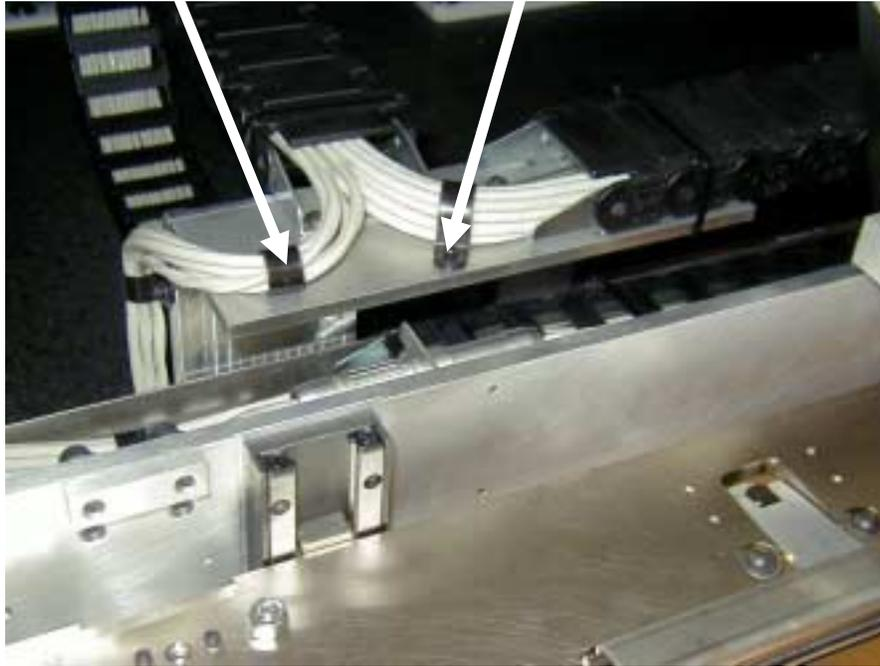

Figure 8.
14. Mount both Cable Clamps to the new E-Chain Support, using the same 2 screws (see Figure 8).